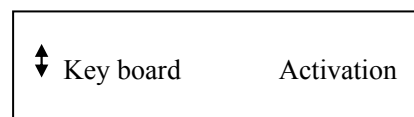

Figure 11: Keyboard storage menu
2. Press **MENU** to enter keyboard storage (see Figure11). Press upper or lower key to select locking. Select storage and the keyboard is locked, select **BACK** to return to the main menu